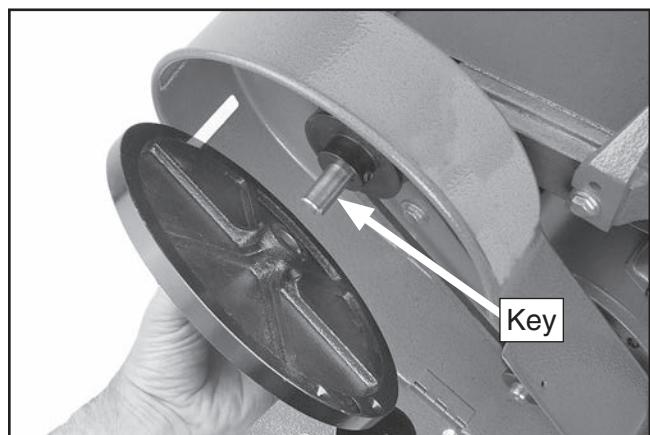

Figure 25. Installing plate onto drive shaft.
6. Align the keyway on the plate with the drive shaft key, then slide the plate onto the shaft, as shown in **Figure 25**.